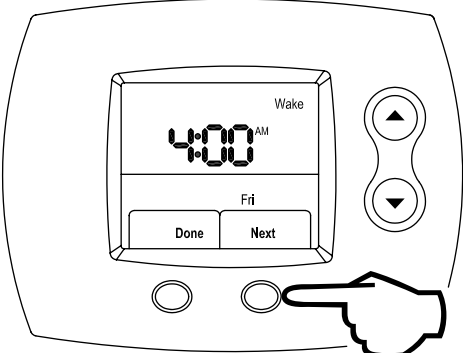

Figure 124
Step 7: Press the **RIGHT** (Next) button to lock in AM / PM. This is shown in Figure 124.